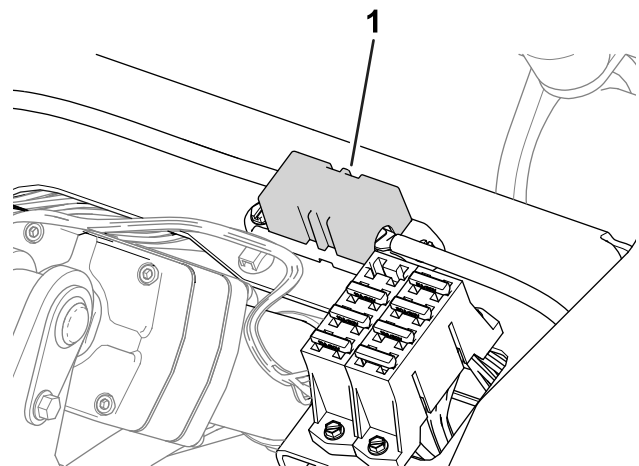

Figure 43
- The fuses for the right wheel motor (60 A) are located under the seat (Figure 43).